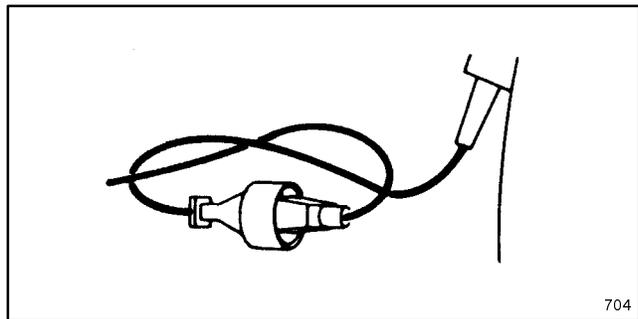

**Figure 6**
11. Properly connect extension cord to power supply cord to prevent disconnection of the cords (Fig. 6).
To reduce the risk of electric shock, this appliance has a polarized plug (one blade is wider than the other) (Fig. 6). This plug will fit in a polarized outlet only one way. If the plug does not fit fully in the outlet, reverse the plug. If it still does not fit, consult a qualified electrician to install the proper outlet. Do not change the plug in any way.